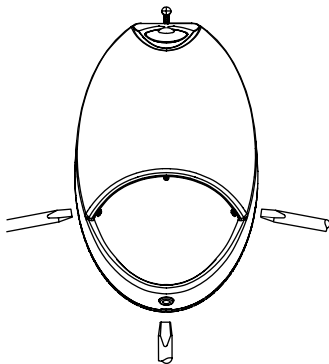

FIG. 3
2. Select working mode. (Fig. 3)